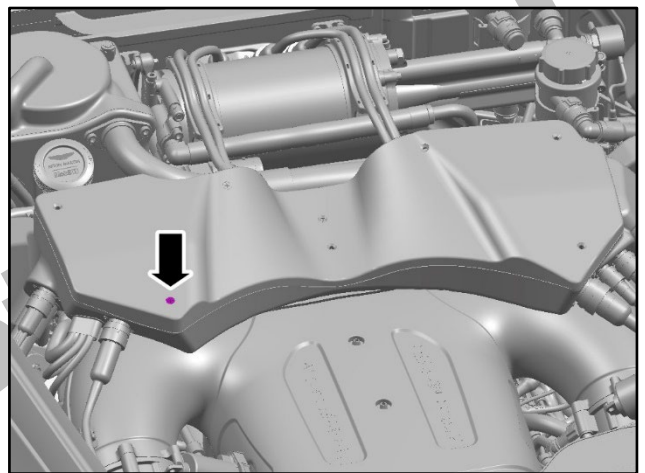

Figure 16
16. Install the 31.75 mm screw (refer to Figure 16).